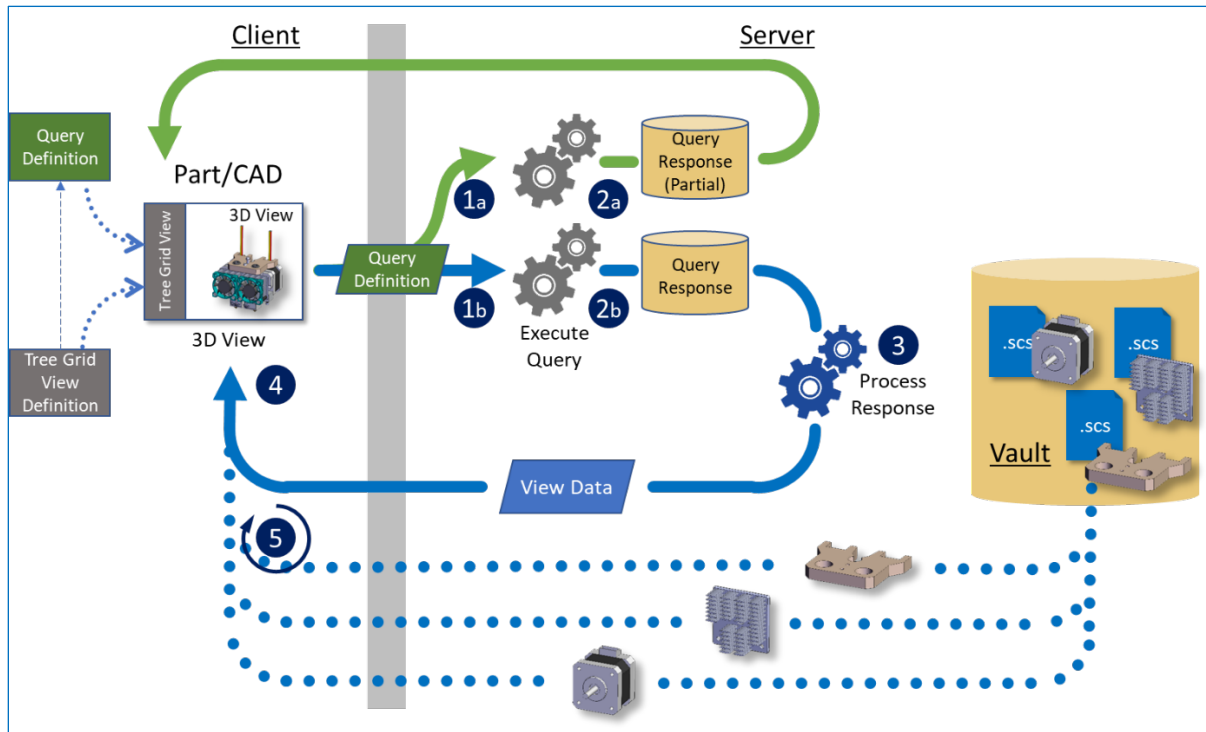

Figure 8.
The Dynamic Viewer is used only for assemblies and displays SCS view files as determined by the results returned from the execution of an associated Query Definition (QD). Unlike a monolithic view file for an assembly, the Query results for a dynamic Query target the view files for assembly parts and the instance and transformation data required to properly position each file given the returned assembly hierarchy. Figure 8 shows the process of rendering the view file in the Dynamic Viewer.